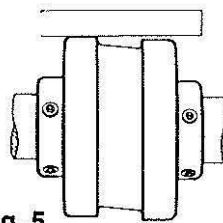

Fig. 5
- a. Check parallel misalignment by placing a straight edge across the two coupling flanges (see Fig. 5) and measure the offset at various points around the periphery of the coupling to determine the maximum offset. This value should not exceed the value under Fig. 7 and should be as close to zero as possible.
- a. Loosen Allen Head Set Screws (Ref. Fig. 5) from half couplings.